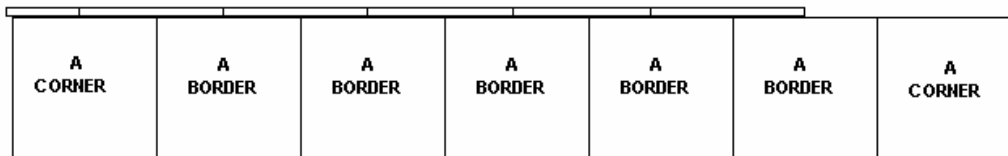

Figure 10
- Now lock an "A CORNER TOP RIGHT" to the right side of the last "A BORDER TOP"(Figure 10)